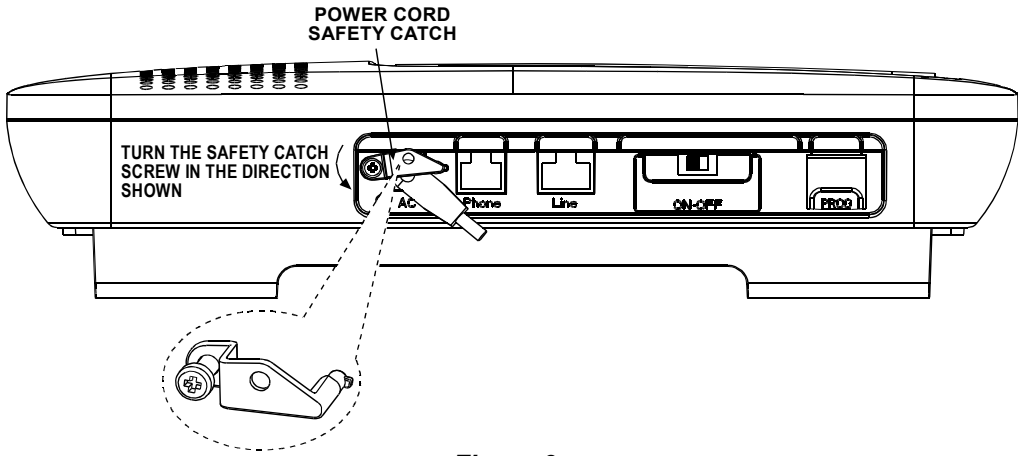

Figure 3a
Note: *Be aware of other phone line services such as DSL. If DSL service is present on the phone line, you must install a filter. See Figures 3a and 3b for proper installation.*
2. Insert the safety catch tab horizontally into the hole to the right of the power cord plug, as shown in Figure 3a.
3. Turn the safety catch screw, observing the polarity of the arrow in Figure 3a, until facing the other hole. Then secure the screw.